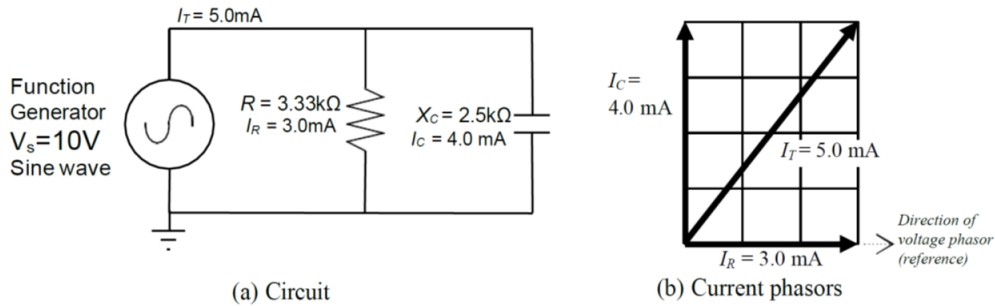

Figure 5.1: Parallel RC Circuit
Consider the current phasor diagram for the parallel RC circuit shown in Figure 5.1. The current in the capacitor is shown at $+90^\circ$ from the voltage reference because the current leads the voltage in a capacitor. The current in the resistor is along the x-axis because current and voltage are in phase in a resistor.
5. Draw the current phasors I_1 , I_2 , and the total current I_{total} in a plot similar to that of Figure 5.1. Ignore the small effect of the sense resistors on the phasor diagram. Note carefully the direction of the phasors. Label each of the current phasors.